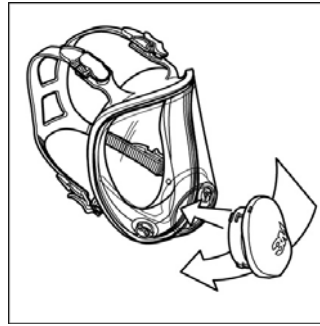

Fig. 3
2. Slide adapter into lens port. (Fig. 3)
3. Grasp center adapter at cover and twist clockwise 1/4 turn to stop. Be certain center adapter gasket is properly in place and sealed and that the adapter assembly is fully engaged. (Fig. 3)